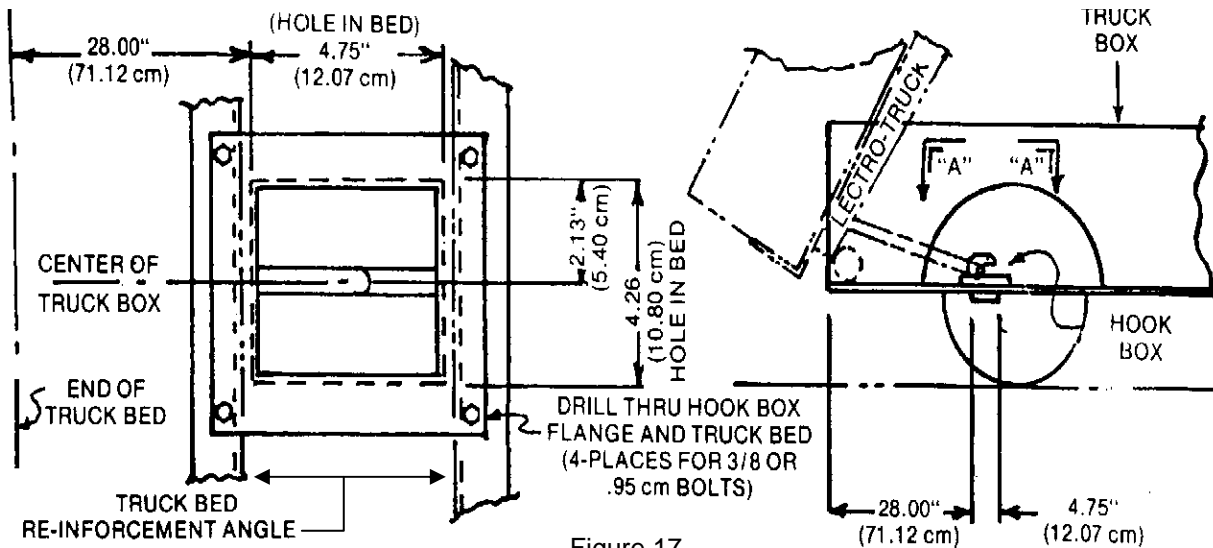

Figure 17
2. Position your hook box front to rear by dropping your hook bar with hook box connected and aligning your hand truck so that the front edge of your wheels are flush with the back edge of your truck bed as shown in Figure 17. For reference, the edge of the hole is 28" (71.12 cm) from the back edge of your truck or trailer.
If you position your hook too far back from the edge of your truck bed, the Inner Frame will drag against the tailgate when loading or unloading. When properly installed, Hook Box and Lectro Truck should look as shown in Figure 17 (right) above.